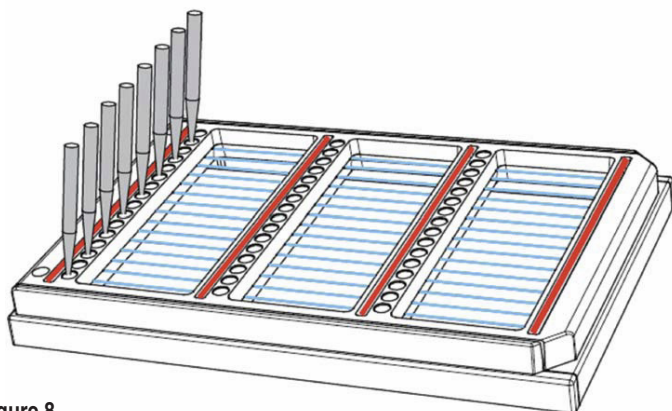

Figure 8
8. Pipette 20 μ l per well of crystallization condition into the precipitation wells as shown in Figure 8. To expedite this step a multi-channel 8-way pipette can be used. Please note that the first tip enters the well #1 and the second will be in #3 etc. A second pipetting operation is used to fill wells 2, 4, 6 etc. Use the CrystalHarp™ plate scoring sheet to register the location of each condition. Ensure no air bubble is trapped on the bottom of the well.